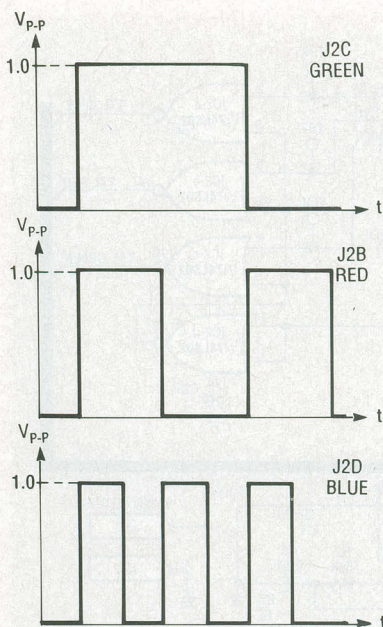

FIG. 4—OUTPUT SIGNALS of the color-bar generator. The TTL signals are reduced to 1 V p-p by R8, R9, and R10.
RGB generators IC1, IC2, and IC3 make up the red, green, and blue video signals that drive the video encoder section to make the color bars. One half of IC1 is used as a divide-by-2 counter, which generates the 252-kHz clock for the four-bit counter IC1. The non-inverted blue, red, and green signals are the divide-by-4, -8, and -16 outputs of IC1, respectively. The blue, red, and green signals are inverted, and blanking is added by IC2. The TTL level is reduced to 1 volt p-p by R8, R9, and R10, as shown in Fig. 4.
- IC1 pins 11–13 (TP6, 7 and 8)—Divided down signals as shown in Fig. 4